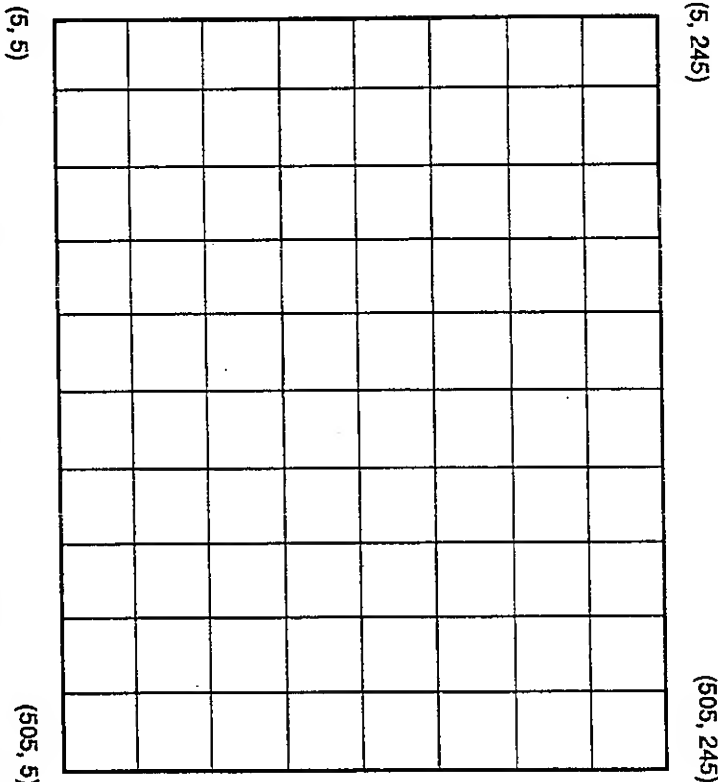

Figure 4-2. Spectrum Analyzer Graticule Coordinates.
The spectrum analyzer's graticule is represented by 500 intervals horizontally and 240 intervals vertically. The graticule corner coordinates are represented as shown in Figure 4-2.
Vertically, the data are digitized into 256 values from 0 to 255. The resulting graticule is represented by points 5 to 245(Figure 4-2).. Values outside this range extend beyond the graticule area. Therefore, the sixth data point (5) along the vertical axis crosses the bottom graticule line; the 245th point crosses the top graticule line. See Section 6, *Programming*, for programming examples using CURVE and CURVE?